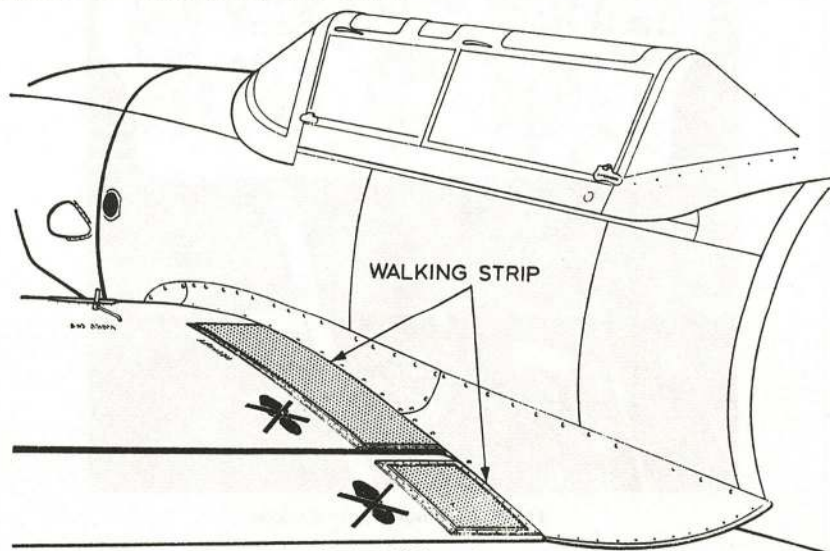

Fig 8 Walking Strip
4. The fuselage, fin, tailplane and the leading edges of the wings are metal covered. The rest of the wings and the control surfaces are fabric covered, for lightness. Whilst the fabric covering is strong enough for all normal purposes it will not take the weight of anyone who treads on it. When entering or leaving the cockpit great care must, therefore, be taken to avoid stepping off the strengthened wing root which is provided with a rubber "walking strip" (see Fig 8).